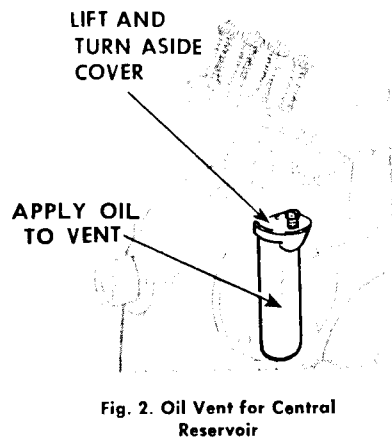
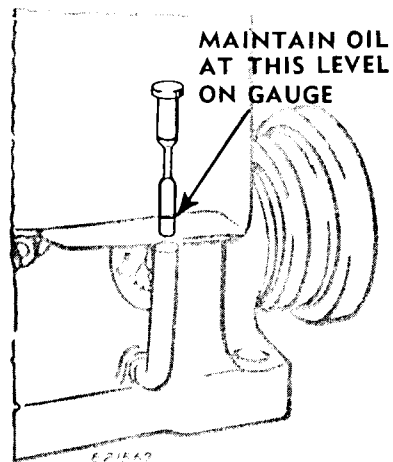
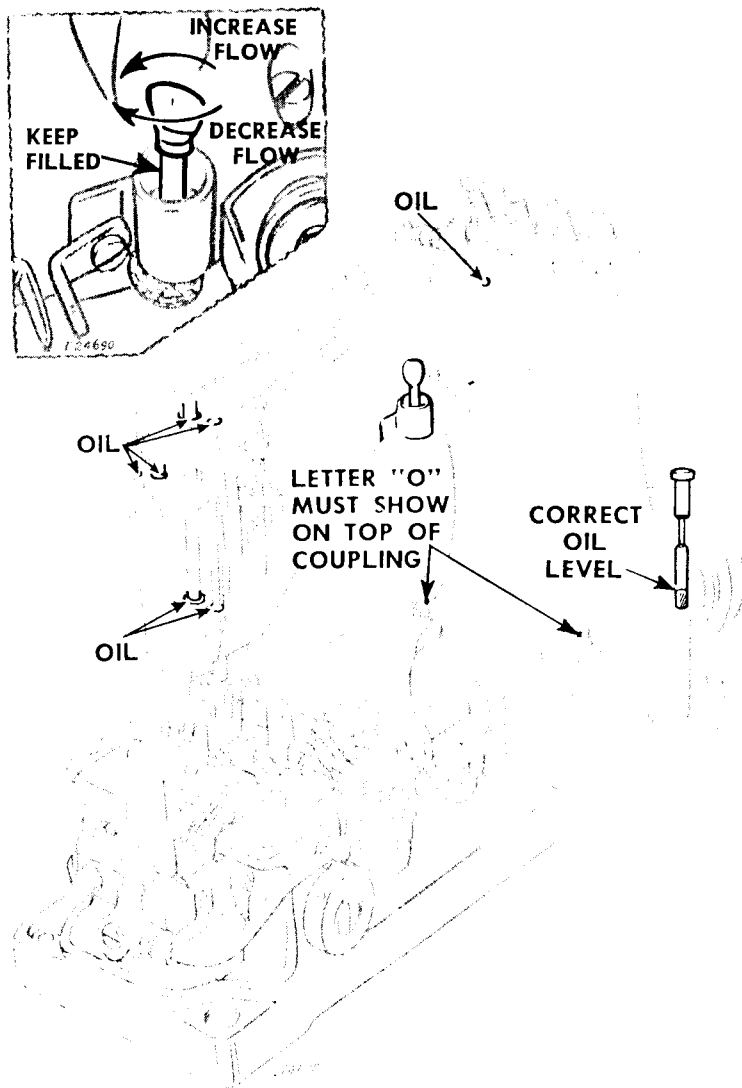
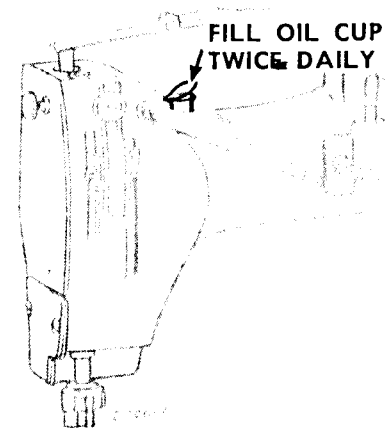

Fig. 2. Oil Vent for Central Reservoir
Fig. 3. Oil Gauge
Fig. 6. Showing Position of Oil Couplings
Fig. 7. Oil Cup
CAUTION: The cover over the oil vent in **Fig. 2**, must be kept closed at all times, except when oiling.
Never permit oil level to drop more than 1/4 inch below level indicated on gauge in **Fig. 3**, when the machine is at rest.
NOTE: The letter "o" marked on the front and rear couplings, see Fig. 6, must always be at the top, to insure that the oil spoon, attached to the inner end of each coupling, is open-side up to receive oil.
Fill oil cup for needle thread lubricator, as instructed in inset at top left of Fig. 6. Use "TYPE E" THREAD LUBRICANT sold by Singer Sewing Machine Company.
Adjust lubricator, (as instructed in inset at top left corner of Fig. 6) to regulate flow of lubricant to needle threads.
IMPORTANT FOR NEW MACHINES (and machines that have been idle for a considerable time): After oil has been applied to all wicks, oil holes and places where parts are in movable contact, as instructed in Figs. 2 to 6, fill the oil cup illustrated in Fig. 7. Then run the machine at a moderate speed for five minutes. Stop the machine. Let it stand idle for a few minutes. Check oil level in reservoir. If necessary, add sufficient oil to bring it to level indicated in Fig. 6, on gauge.
2. Fill oil cup illustrated in Fig. 7.
3. Check oil level in reservoir, as instructed in Fig. 2, and add oil through oil vent, when necessary, as instructed in Fig. 3, page 4.